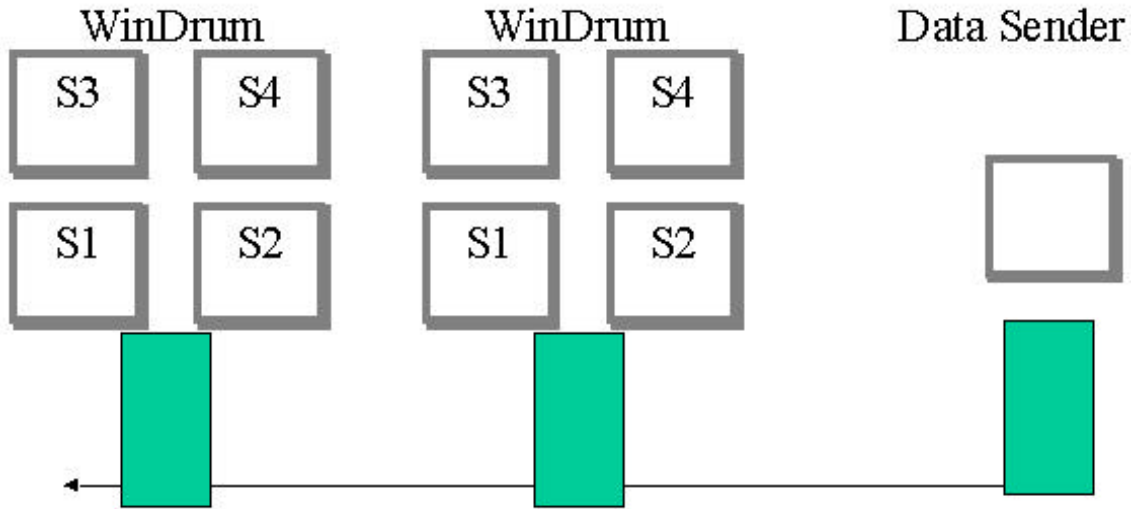
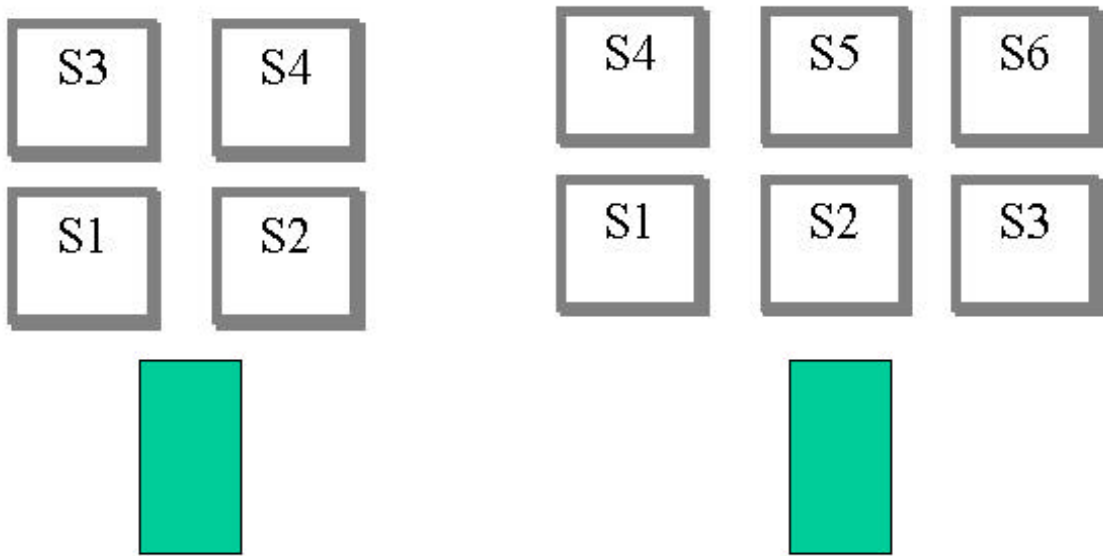

Fig. 5 – The standard setting of the multi-monitor configuration at the Osservatorio Vesuviano seismic monitoring center.
Fig. 7 – Two lines MONITORS CONFIGURATION example.
At the Osservatorio Vesuviano a multi-monitor configuration is adopted using graphic board PCI on Win98 operating system. The standard configuration is an assembly of 4 monitors for each machine set as shown in fig. 5. Following an internal convention, the main program, which sends commands and optionally data messages to the others, corresponds to the monitor #1, whereas the program that copies images to the WEB server corresponds to the monitor #3. At the present time there are six channels on the Osservatorio Vesuviano WEB pages that automatically refresh every 60 seconds (<http://www.ov.ingv.it/seismogroup-file/monitors.htm>).
- 2 = monitors are configured on two lines, numbered as shown in fig. 5 and fig. 7.